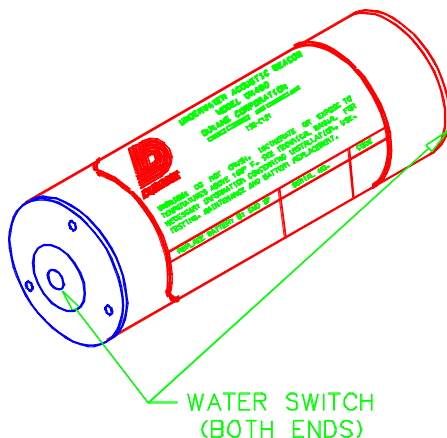

Figure 1. Water Switch Location on Beacon
1.2.1. PHYSICAL CHARACTERISTICS. The DK480 beacon consists of a self-contained battery, an electronic module and a transducer. It is housed in a cylindrical watertight aluminum case capable of withstanding high-G impact shock and deep-water immersion. As shown in Table 1, the DK480 beacon operates for 30 days when immersed in water. See Figure 1.